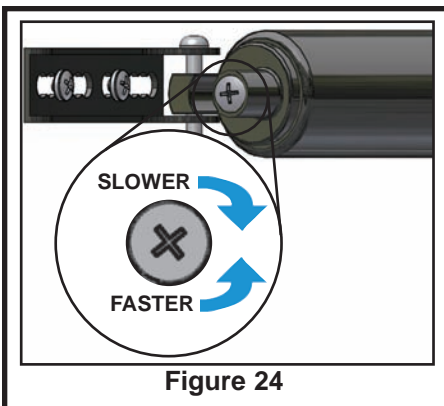

Figure 24
1. Locate the adjustment screw at the end of the closer that attaches to the door frame (Figure 24).